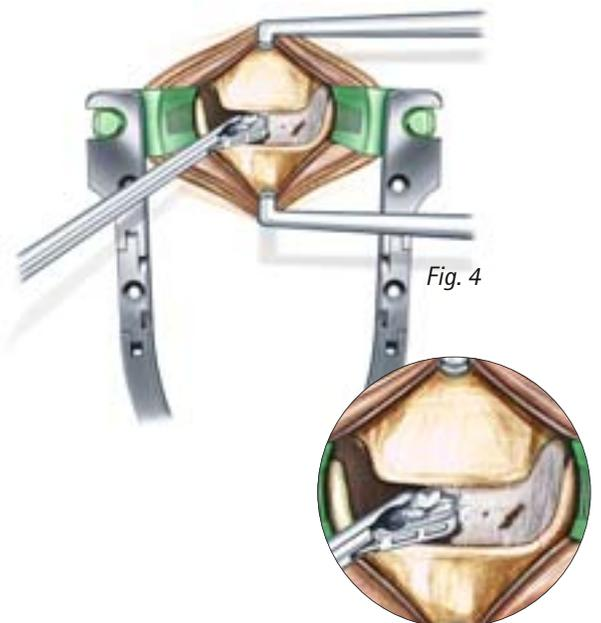

Fig. 4
- ✦ Complete discectomy is performed using various rongeurs, rectangular curettes and bone curettes (Fig. 4). While using a high speed drill to remove the posterior rim and/or dorsal osteophytes, care must be taken to avoid damaging the vertebral body endplates.